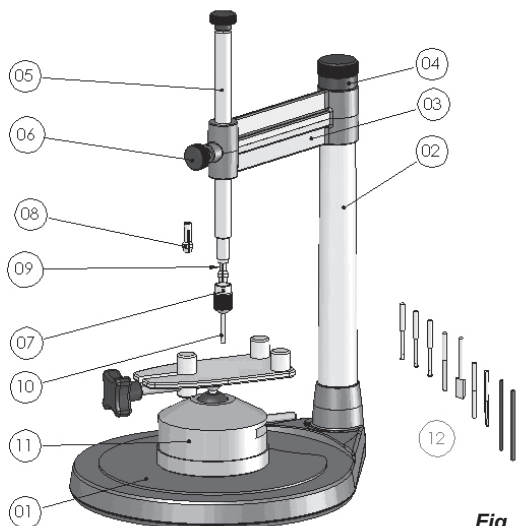

Fig. 01
For better understanding, be guided through the items of Figure 01.
1. In case of moisture occurrence mainly on the Surveyor B2 moving parts or its accessories, immediately clean and dry the best you can with a dry cloth and lubricate the vertical rod (05 figure 01) and the gripper nut (07 Figure 01), under no circumstances use compressed air for cleaning.
3. The Surveyor B2 moving vertical rod (05 Figure 01) is made of carbon steel and grinded, to ensure a perfect operation and a smoothness of the movements, its cylindrical surface must be lubricated, for that, use oil thin lubricant in small quantity.
6. The checking of the need for lubrication of the moving vertical rod (05 figure 01) is visual and according to the utilization frequency.
3. If the Surveyor B2 remains unused for a long period, lubricate the moving vertical rod (05 Figure 01) of the gripper nut (07 figure 01).
| Vertical movement difficulty of the Surveyor B2 rod. | Rod locking knob (06 Figure 01) tighten. | Release the rod locking knob (06 Figure 01) by turning counterclockwise. |
| Surveyor B2 pivoting arm movement difficulty (03 Figure 01). | Arm fixation knob (Figure 04 01) tighten. | Release the knob (04 Figure 01) by turning one turn counterclockwise, and see instructions in chapter 5.3. |